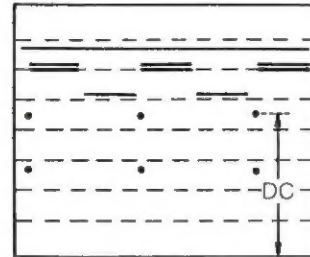

Fig. 5
4. Adjust voltage to DC 120V with Screen control of Flyback Trans. (Refer to Fig. 5)